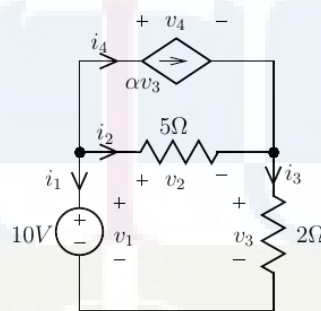

Figure 2: $\alpha = 0.5$
- (b). Explain how 'damping' can be used to improve convergence in nonlinear equation solutions using Newton-Raphson method. (4)
12. (a). For the circuit shown in Fig. 2, formulate the Sparse Tableau Analysis (STA) matrix from the fundamental equations. Take $\alpha=0.5$. (10)